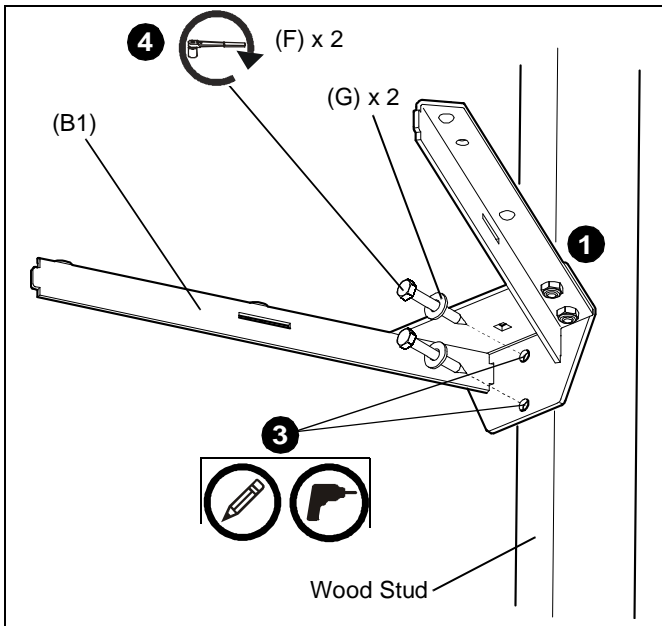

Figure 1
2. Level shelf base. (See Figure 1)
4. Secure shelf base to wood stud using two 1/4" flat washers (G) and two 1/4 x 2" hex head lag screws (F). (See Figure 1)